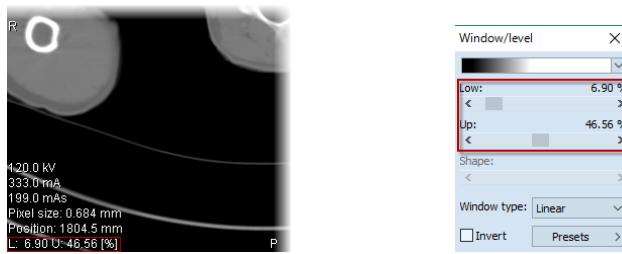

Figure 157 – Window/level tool and a view with the LU[%] adjustment type
- Low/Up [%] – the Low value defines the lower (start) limit and the Up value defines the upper (end) limit in percentage of the image data values displayed in the view (see Figure 157).
To change the current adjustment method, select the required method in the **Adjustment type** combo box on the **Modality** tab of the **Options** dialog (see 4.2 Modality options). For the specified modality the window/level information string in the views (the view texts) as well as in the **Window/level** tool is formatted according to this option (see Figure 157).